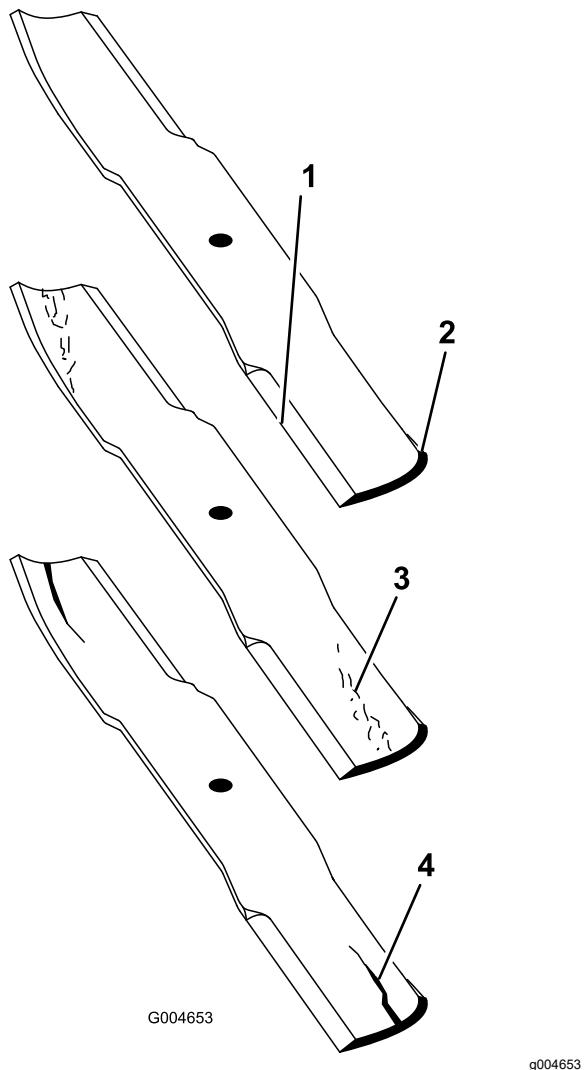

Figure 84
2. Examine the cutting ends of the blade carefully, especially where the flat and curved parts of the blade meet (Figure 84).
Note: Because sand and abrasive material can wear away the metal that connects the flat and curved parts of the blade, check the blade before using the mower. If wear is noticed (Figure 84), replace the blade.